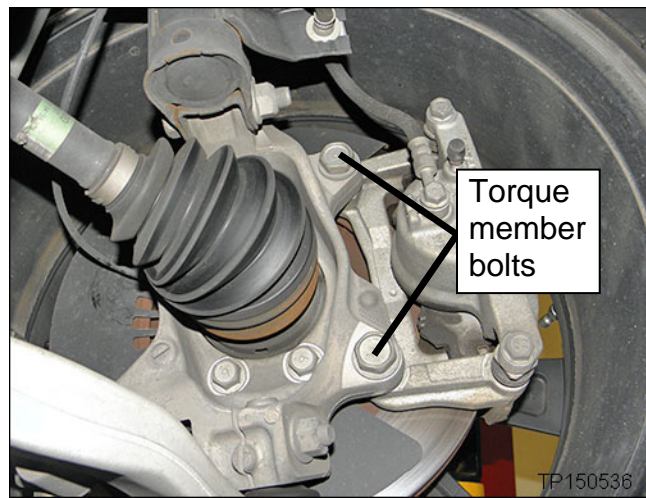

Figure 1
2. Locate and re-torque both torque member bolts on each front wheel hub assembly (see Figure 1).
- Figure 1 shows the Driver side; the passenger side is a mirror image.